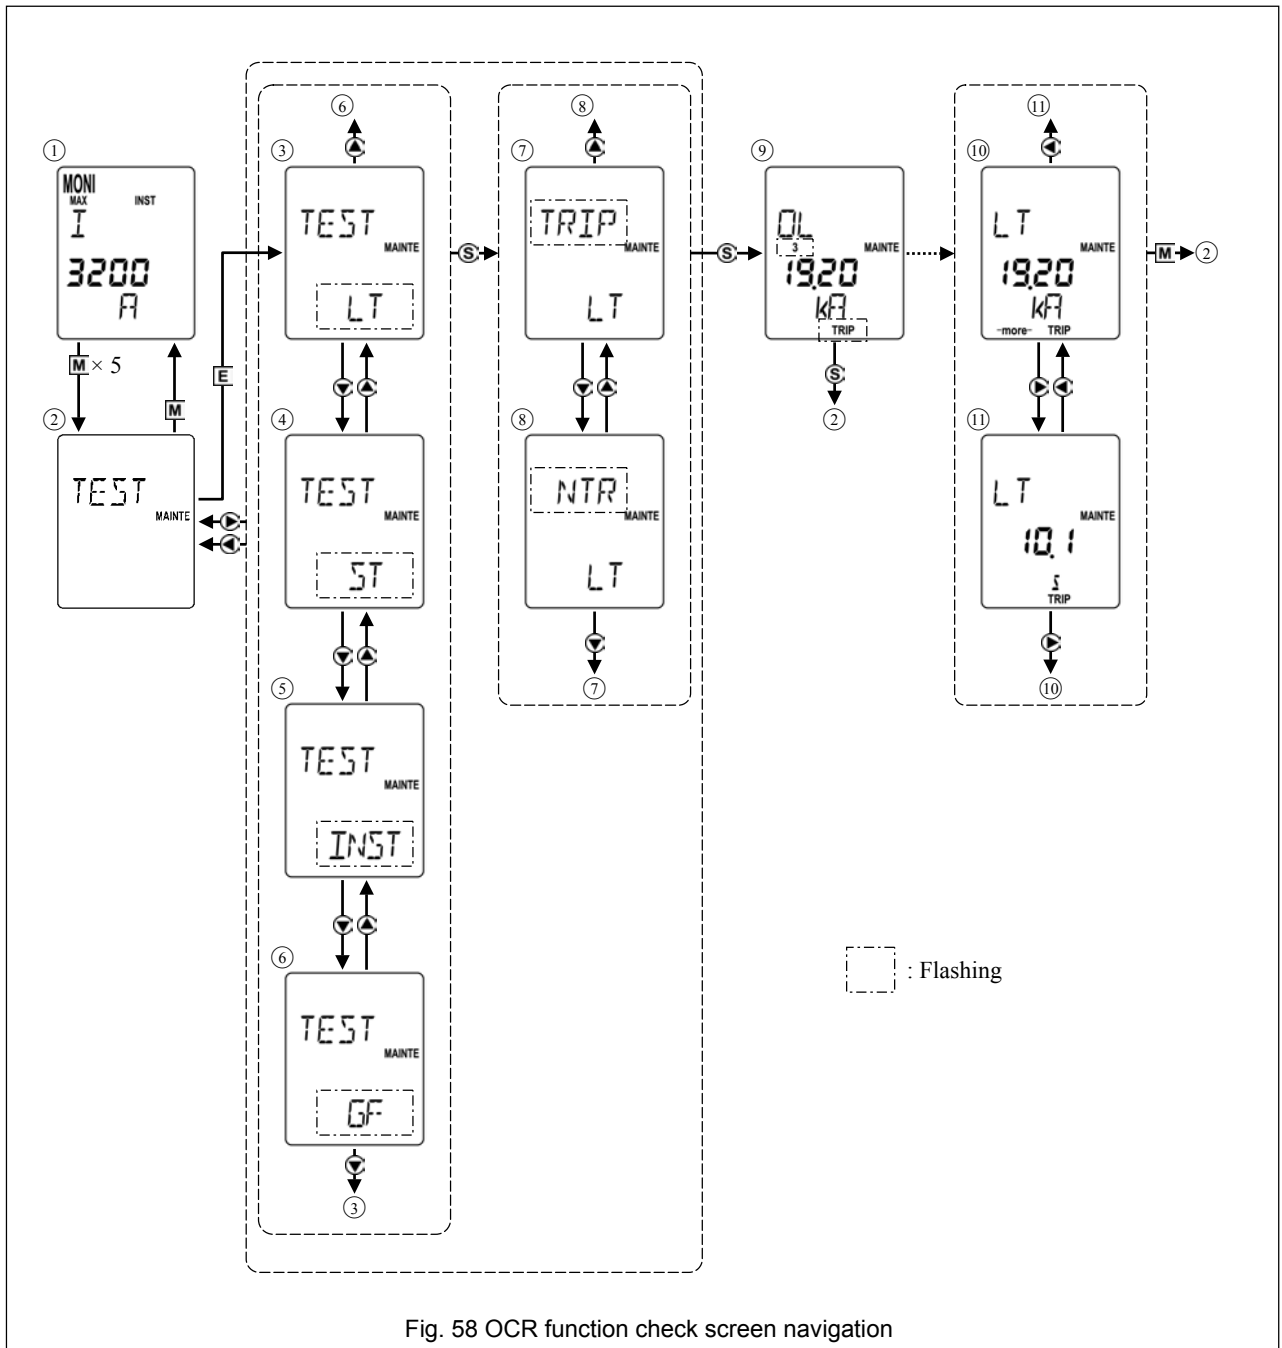

Fig. 58 OCR function check screen navigation
- 4) Follow the procedure described in Fig. 58 and Table 30 to check the OCR for normal operation. (In NTR mode, the ACB does not operate, a trip/alarm event is not saved in the log and operation indication contact output is not provided).